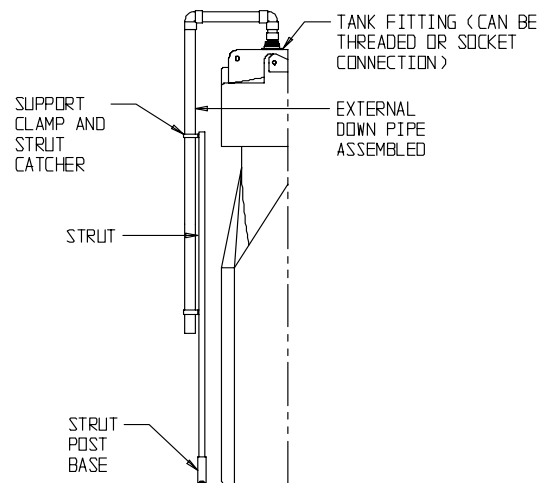

Figure 7.5
7.5.2 Assemble the piping loosely using Figure 7.5, the guidelines detailed below, and the customer approved tank drawing to ensure all parts are present and cut to meet the customer's requirements. Mark the strut post base on the concrete when in proper position. Install 2 ea. 3/8" adhesive anchors and bolt base into position. As soon as all parts have been checked, assemble the parts with solvent weld cement and/or threaded connections as shown in Figure 7.5.
7.5.3 Assemble and install support structures as shown in Figure 7.5. Make sure the support clamps are spaced evenly. Locate the strut catchers and twist 90° to lock in place. Install the clamps to the strut catchers with the #10 screws provided. Clamps 3 in. and larger require 2 ea. strut catchers, #10 screws and #10 washers. The pipe will click into position in the clamps. Make sure all clamps have clicked to full engagement and are tight. Assemble and install piping as per the customer approval drawing. Seal all threaded